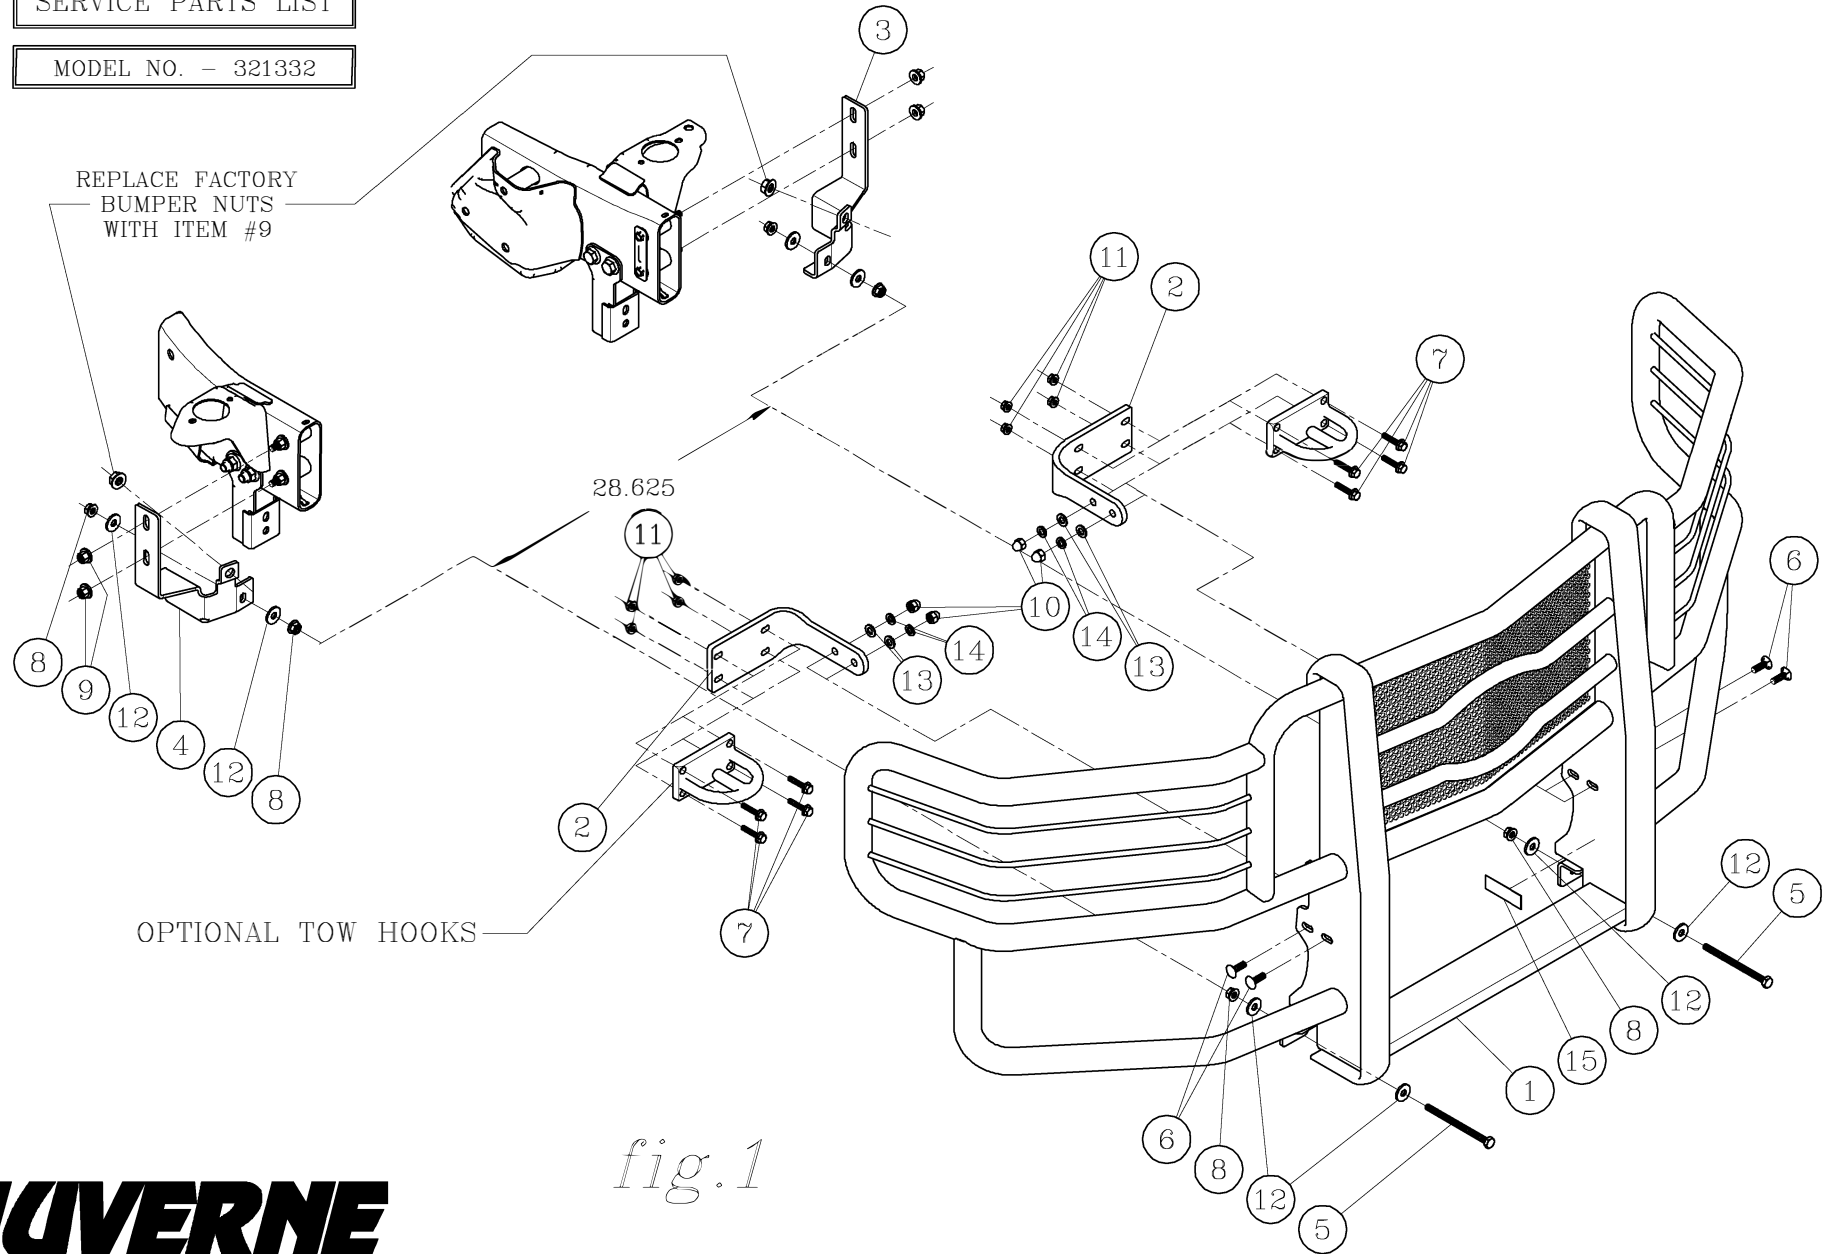

fig.1
3. INSTALL THE TOP MOUNTING BRACKETS (ITEM #2) TO THE PLATES ON THE END OF THE FRAME USING THE FOUR 3/8"-16 X 1-3/4" WASHER HEAD BOLTS (ITEM #7) AND THE FOUR 3/8"-16 FLANGE NUTS (ITEM #11). IF YOU HAVE TOW HOOKS, REINSTALL THEM AT THIS TIME AS SHOWN IN *Fig. 1*. HAND TIGHTEN ONLY AT THIS TIME.
6. ON THE 1/2"-13 X 6" BOLTS (ITEM #5), INSTALL AN 1/2" FLAT WASHER (ITEM #12) AND INSERT IT THROUGH THE HOLES IN THE UPRIGHTS BOTTOM MOUNTING BRACKETS FROM THE FRONT SIDE. INSTALL ANOTHER FLAT WASHER (ITEM #12) AND AN 1/2"-13 FLANGE NUT (ITEM #8). INSTALL ANOTHER FLANGE NUT (ITEM #8) FACING FORWARD AND ANOTHER FLAT WASHER (ITEM #12). WITH THE END OF THE BOLT THROUGH THE LOWER MOUNTING BRACKET, INSTALL A FLAT WASHER (ITEM #12) AND AN 1/2"-13 FLANGE NUT (ITEM #8). SEE *fig.1*.